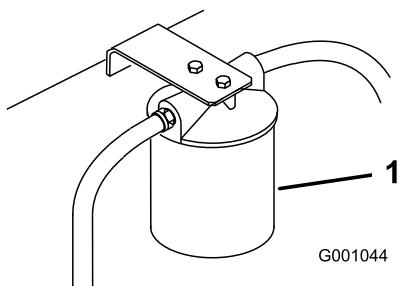

Figure 70
3. Place drain pan under filter, remove the old filter and wipe the filter adapter gasket surface clean (Figure 70).